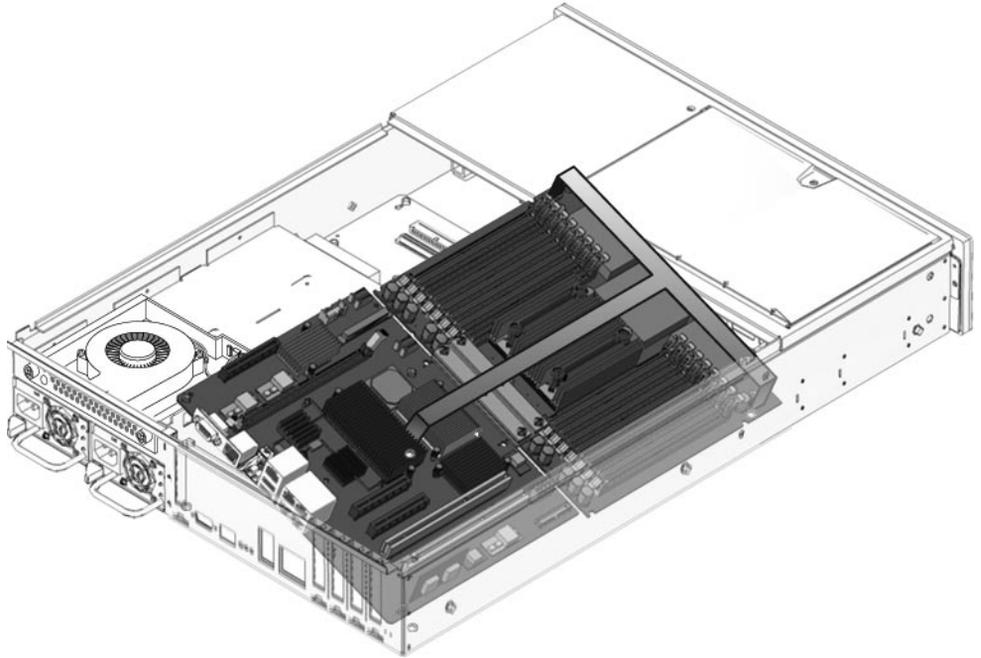

FIGURE 5-14 Removing the Motherboard Assembly From the Server Chassis.
- Using the handle, tilt the motherboard assembly over the interior chassis wall and lift it out of the chassis (FIGURE 5-14).